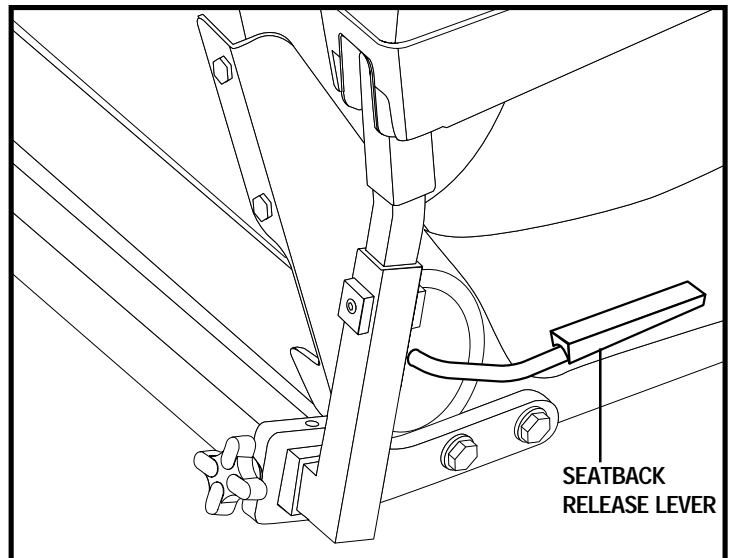

Figure 14. Manual Recline Seatback Adjustment
2. Set the seatback at the desired angle. See figure 14.
If your power chair is equipped with a reclining seat, you can adjust the seatback angle with the seatback release lever. The lever is located on the right side of the seat base. See figure 14.